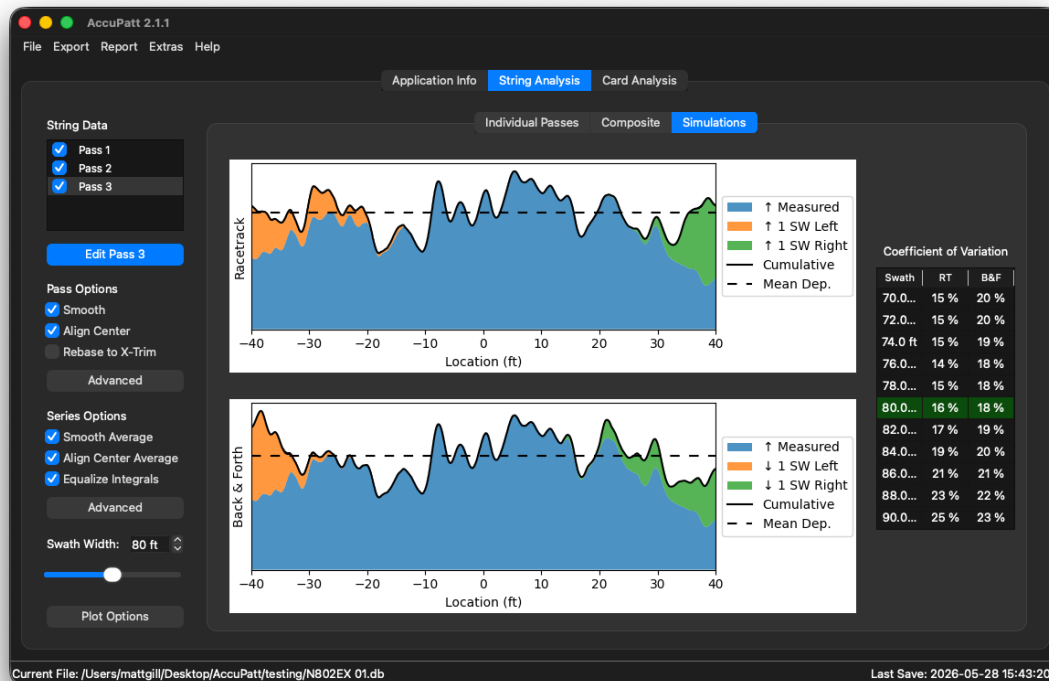

Figure 22: String Analysis - Simulations
The **Simulations** sub-tab contains two plots (Figure 22). Both plots simulate additively overlapping the measured pattern at intervals of the adjusted swath width. The bold black line represents the resultant summed pattern, and is interpreted here as projected in-field uniformity. The dashed horizontal line represents the mean value, about which standard deviations are computed for coefficient of variation (CV) calculations. In other words, the further a data point on the bold black line is (vertically) from the dashed line, the more it contributes to the CV.